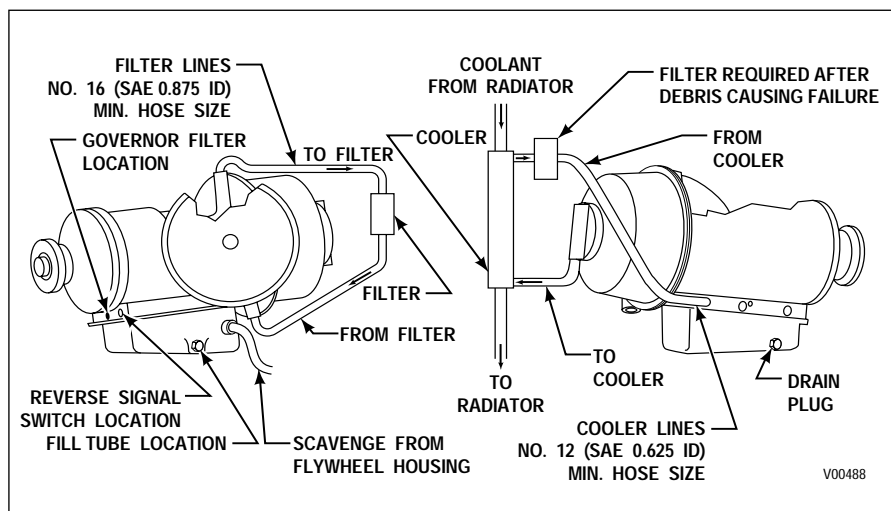

FIGURE 5–1. Filter, Cooler, and Scavenge Fluid Lines
- Recheck the routing of all lines with Figure 5–1.